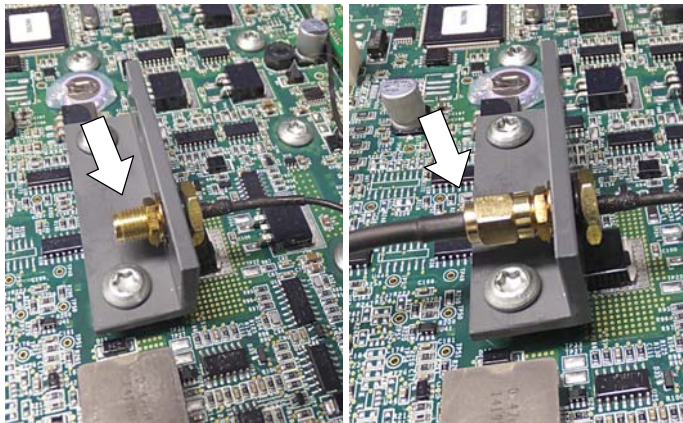

Fig. 11
5. Connect the new control board's antenna wire to the antenna bracket as shown. Then reconnect the antenna wire (Figure 11).